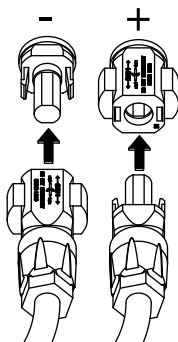

Fig. 31: Connect the PV string
6. Plug the sockets and plugs of the DC cables onto the inverter. **Fig. 31**